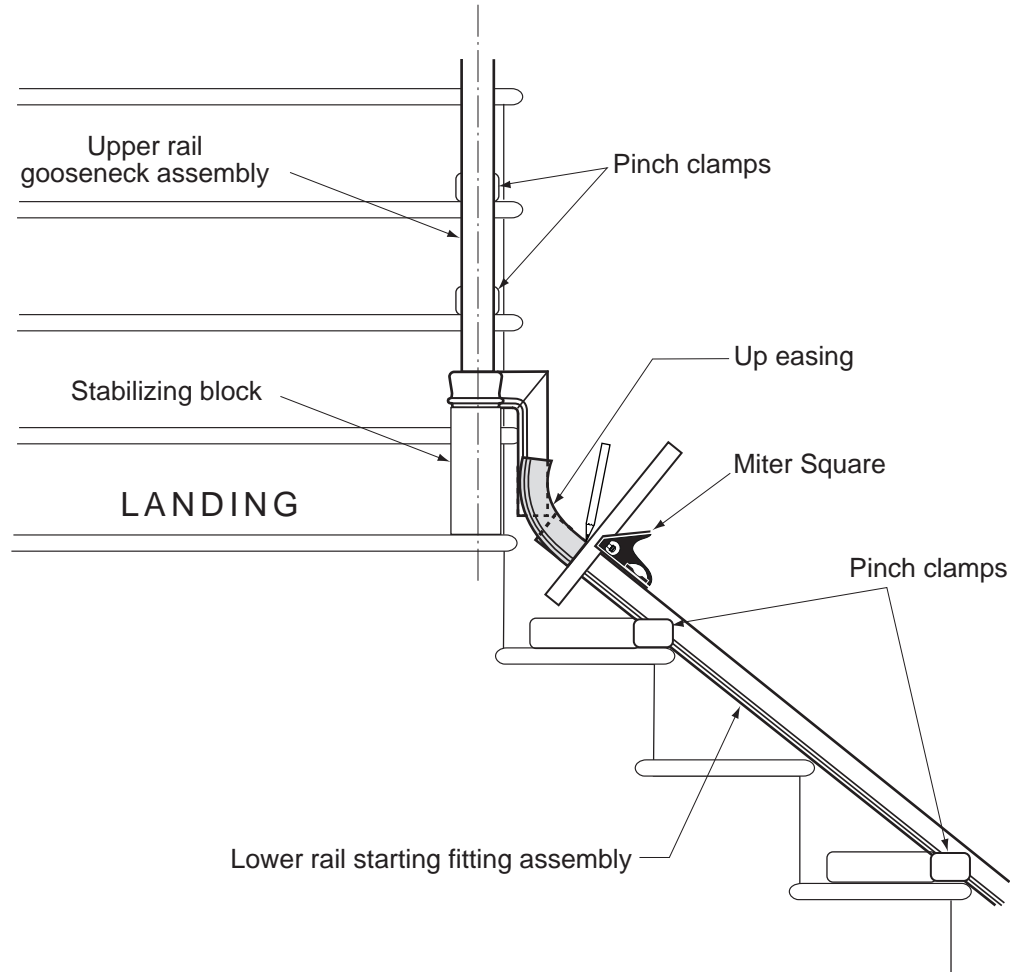

Fig. 3-27 Mark lower rail at bottom end of up easing for square cut on lower rail.
7. Mark the lower rail at the lower end of the up easing. Please note Fig. 3-27 here.